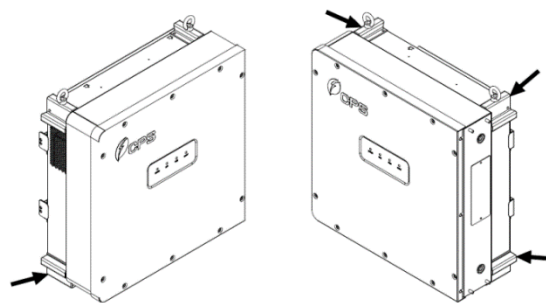

Figure 3-12 Grab Handle Position
- **Manual mounting:** At least two people are needed to properly lift the inverter by the handle positions marked in Figure 3-12 and mount the inverter onto the bracket.